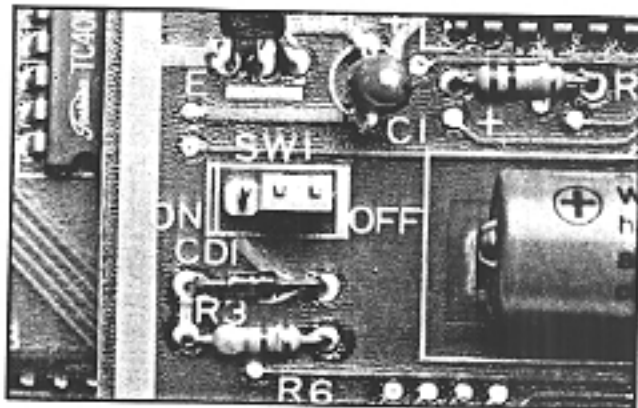

FIGURE 13—CMTU SW1 SWITCH
06.42 Refer to Figure 13, locate the SW1 battery strap on the CMTU, the strap is shown in the **OFF** or disconnected position. To connect the battery, remove and reinstall the strapping plug so that it bridges the center pin with the pin labeled **ON**.